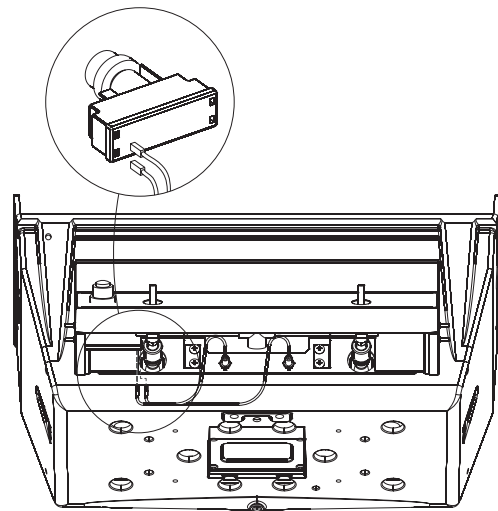

Figure 8
- Remove ignitor from the control panel by unscrewing the ignitor button and nut. Attach ignitor wires to terminals on the ignitor. See Figure 8.